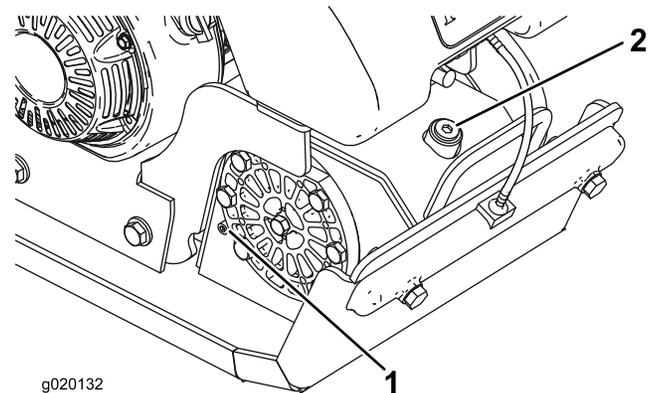

Figure 23
2. Place a drain pan under the oil plug and remove the oil plug screw on the side of the eccentric housing (Figure 23).
2. Place an oil drain pan under the oil plug and remove the fill plug and the oil plug screw (Figure 23).
3. Tip the plate compactor forward slightly and use a suction gun to remove the oil through the filler hole (Figure 23).
4. Slowly pour oil into the filler hole until the oil comes out the oil plug (Figure 23).